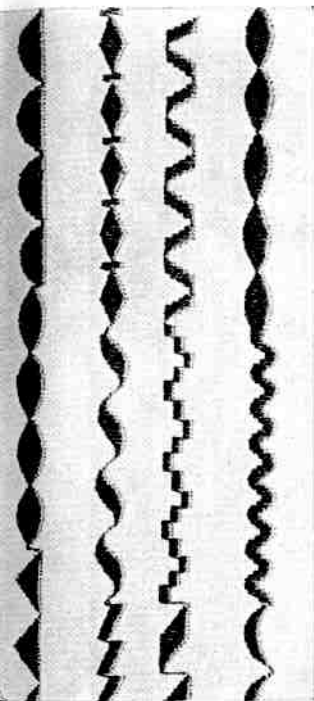

Fig. 74
- a) Patterns combined with each other (see fig. 74).